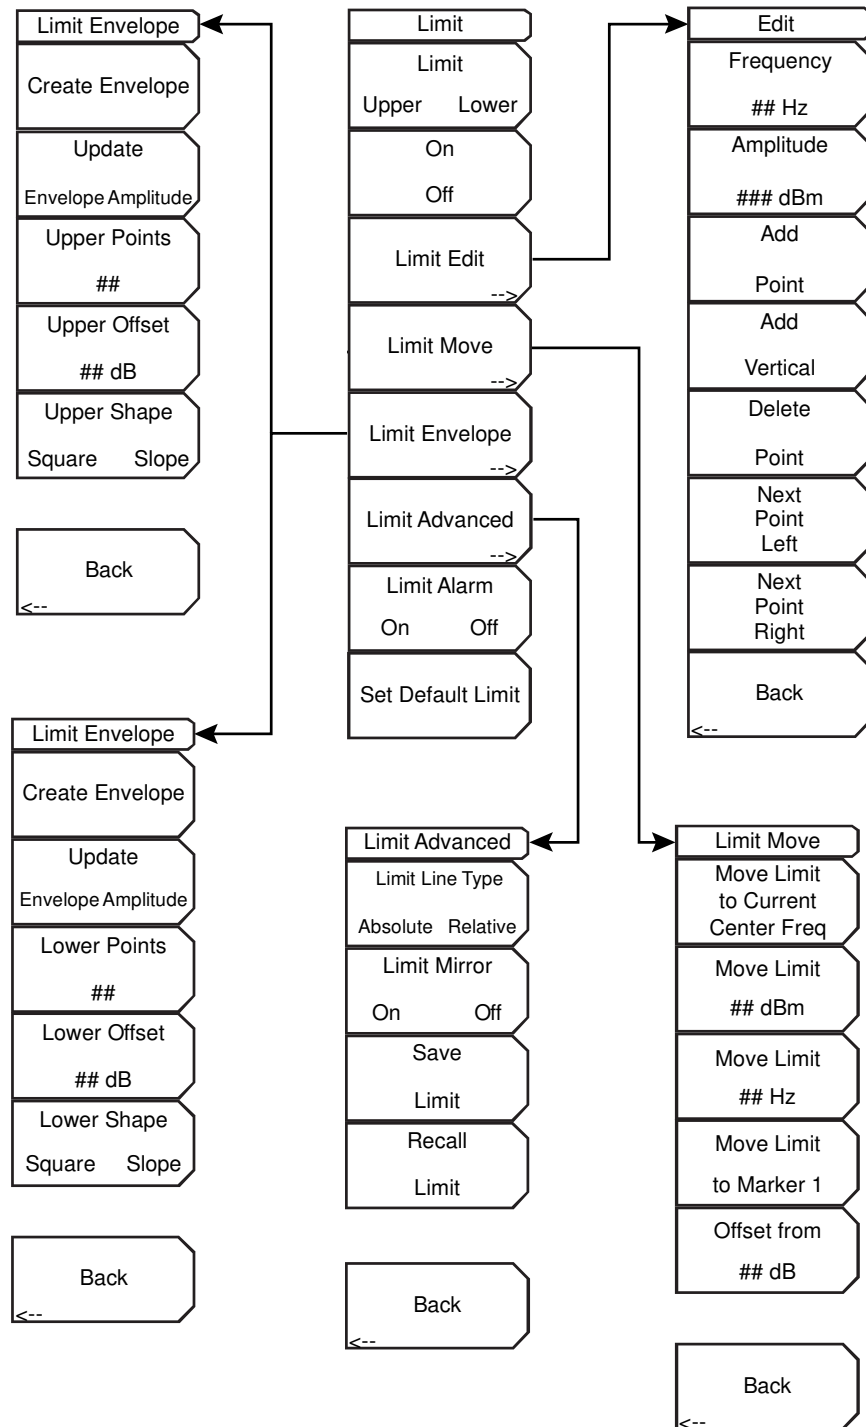

Figure 3-5. Limit Menu Soft Keys
To access the functions under the Limit menu, press the **Shift** key, then the **Limit** (6) key. The Limit menu soft keys are shown in Figure 3-5.